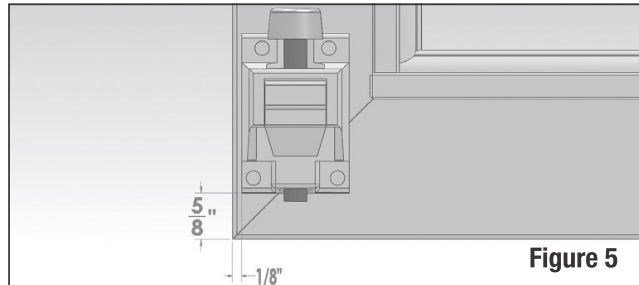

Figure 5
- 4 Once the door installation is complete, install the foot lockset on the meeting rail of the operating panel at the location indicated in **Figure 5**, using #8 - 1/2" screws, and with the door closed, install the foot lockset latch in the ideal location, using #8 - 1" screws.